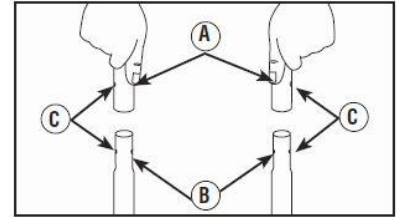

Fig. 1
1. Place handle (A) onto handle supports (B) connected to main unit. Make sure holes (C) in handle align with holes (C) on handle supports. (See Fig. 1)